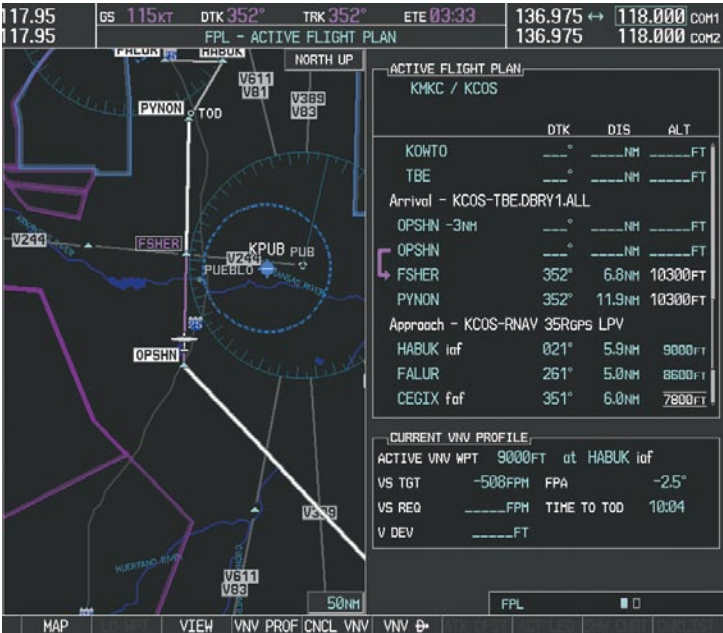

Figure 5-132 Tracking the OPSHN to FSHER Leg
19) After passing OPSHN, the next leg of the arrival turns magenta as shown in Figure 5-132. The magenta arrow in the flight plan list now indicates the OPSHN to FSHER leg of the arrival procedure is now active.